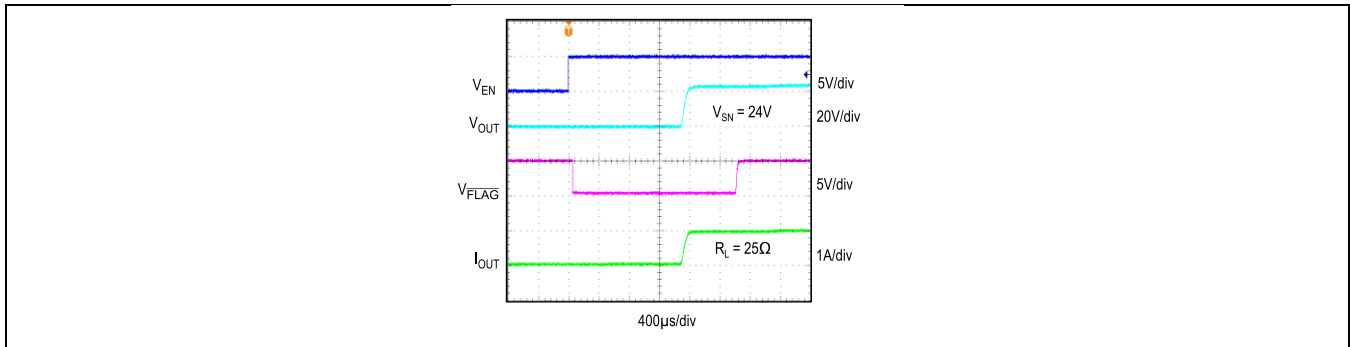
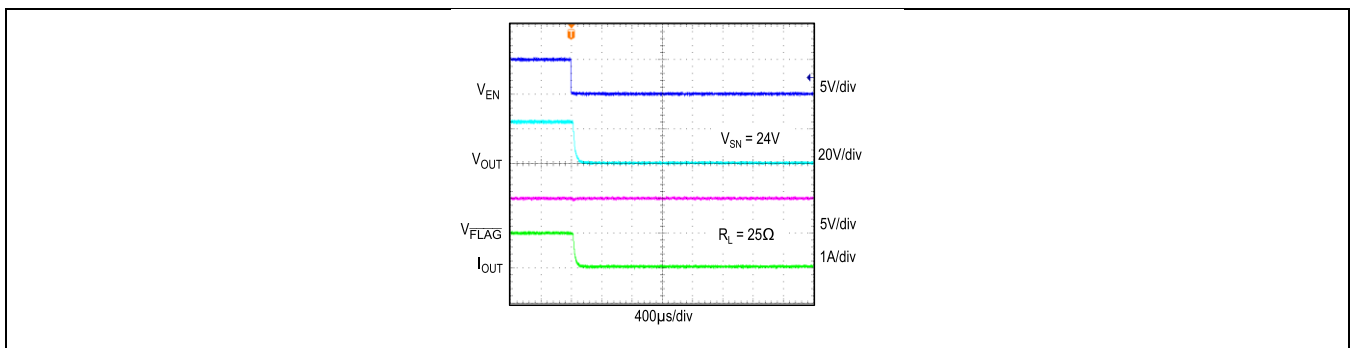

Figure 10. Turn-On Control Through EN Pin
Figure 11. Turn-Off Control Through EN Pin
The MAX17527A can be turned on or off using the enable input pin (EN) to control the power delivery to connected loads. In Latch-Off Mode, the EN pin must be pulled low below 0.4V for at least 30 $\mu$ s (typ) to reset the fault condition, and the device resumes operation. The EN pin is internally pulled up to 1.45V to have an always ON operation when it is left open. Figure 10 and Figure 11 show turn-on and turn-off control with EN.